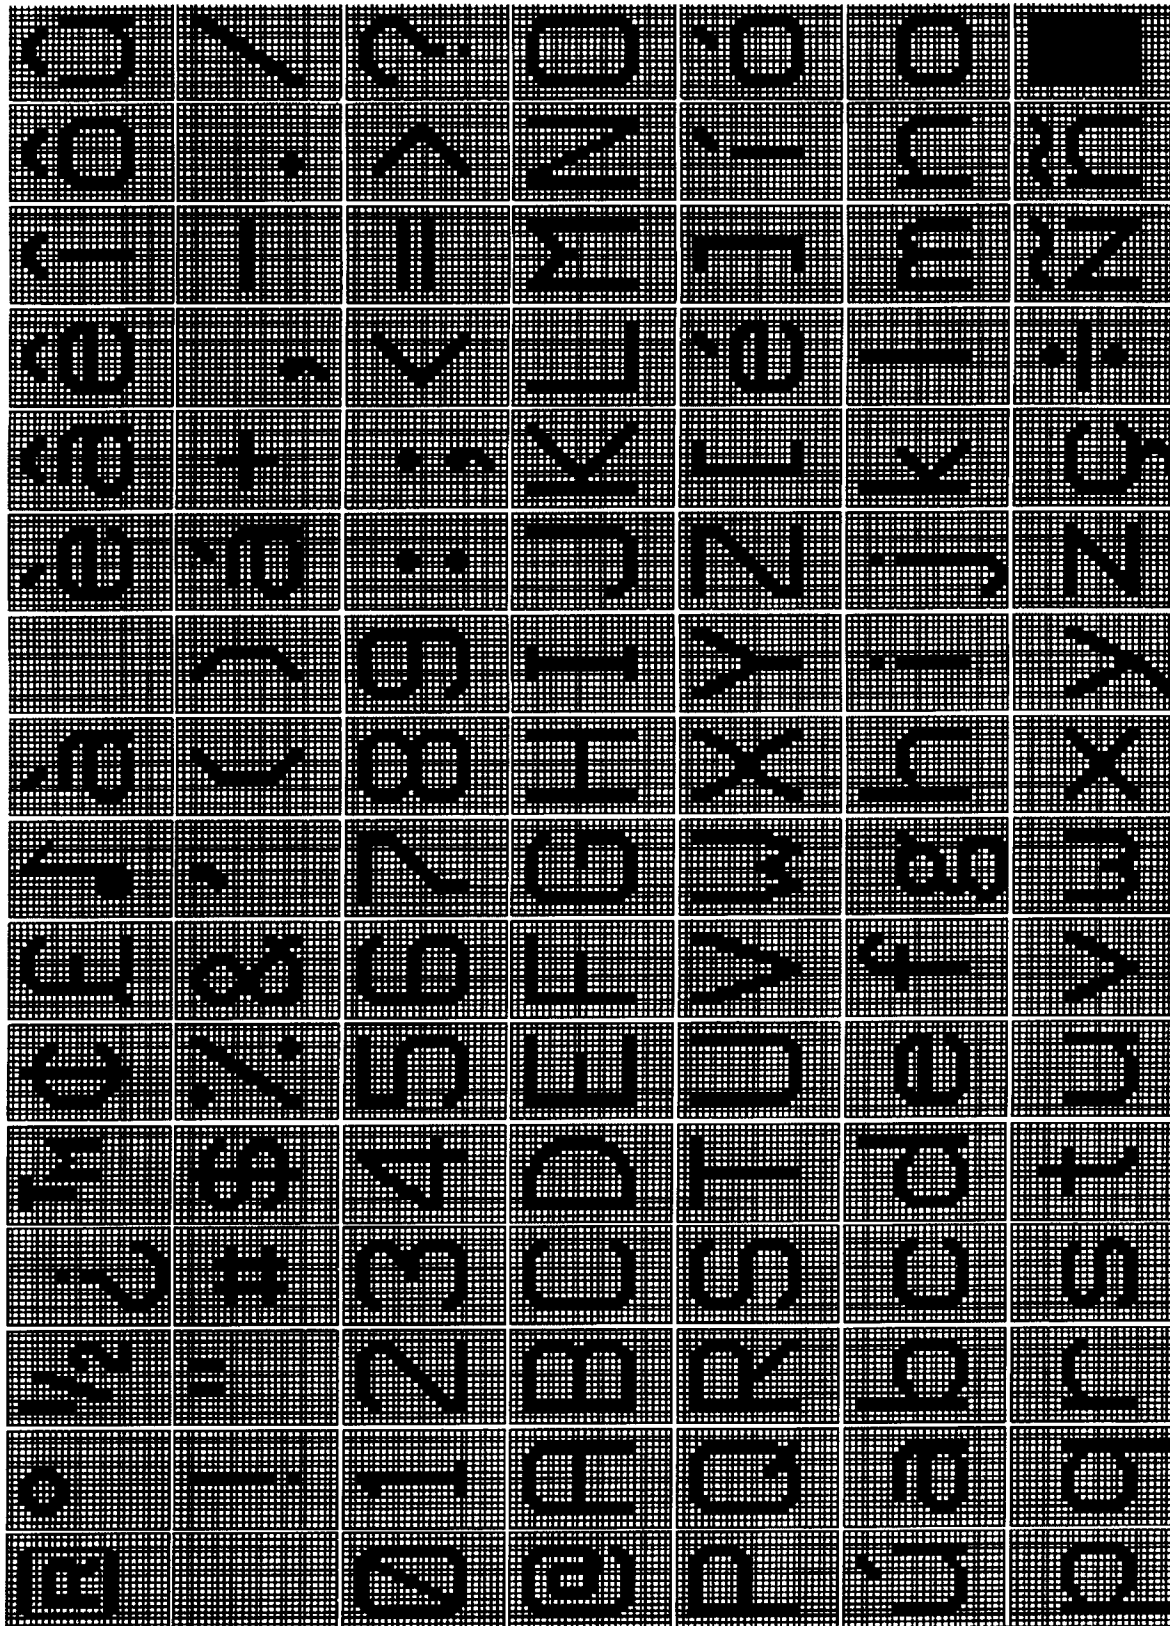

Figure 7. Z86129 Standard Character Map and Font
**Normal Mode.** Characters are displayed as white or colored dot matrix characters on an opaque background. The Box is normally black but the Z86129 can be set to a blue background Box with a serial command. The characters are described by a 12 by 18 dot pattern within a character cell which is 16 dots wide by 26 dots high per frame. The location of the character luminance within the character cell varies from character to character to allow for the display of lower case letters with descenders. All characters have at least a 1-dot border of black around each character. Underline is also provided. Figure 7 illustrates the Z86129 standard character map and font.